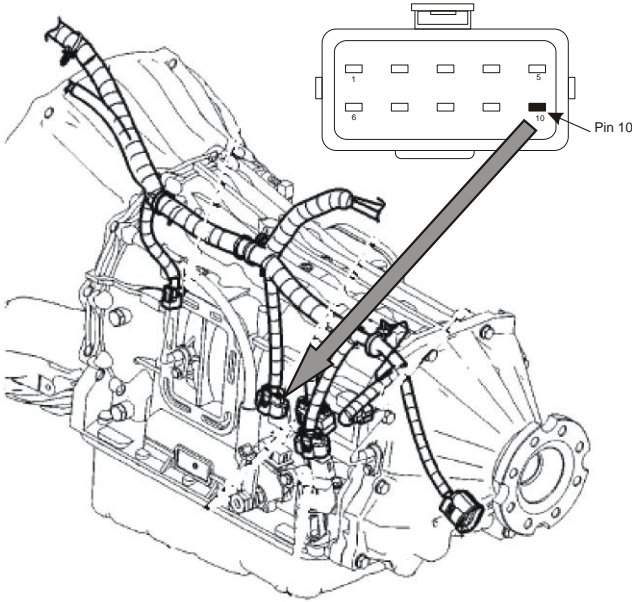

Figure 4.2
- ☐ Route the long blue wire from the throttle control to the transmission range sensor on the driver side of the transmission above the oil pan (Figure 4.2). Solder and seal the blue wire to the yellow wire with the dark blue stripe at pin 10 on the connector. This wire should show 0 Volts in Park or Neutral and approximately 12 V in all other gear selections when tested with a multi-meter.